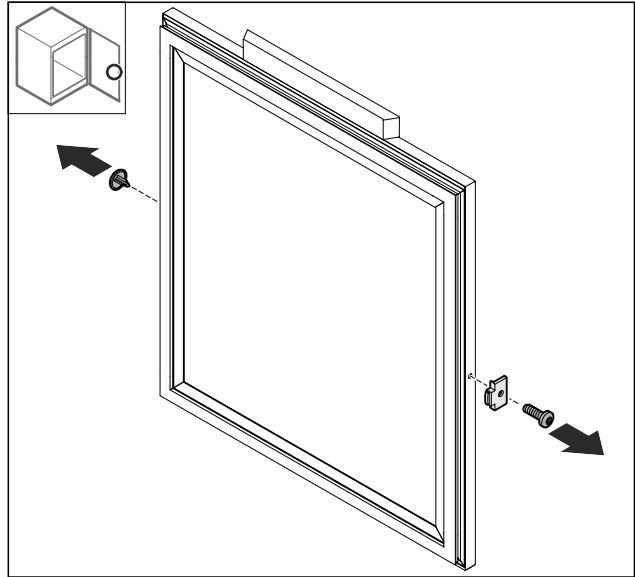

Fig. 75
- Remove cover Fig. 75 (1).
- Detach the Fig. 75 (2) door stopper.